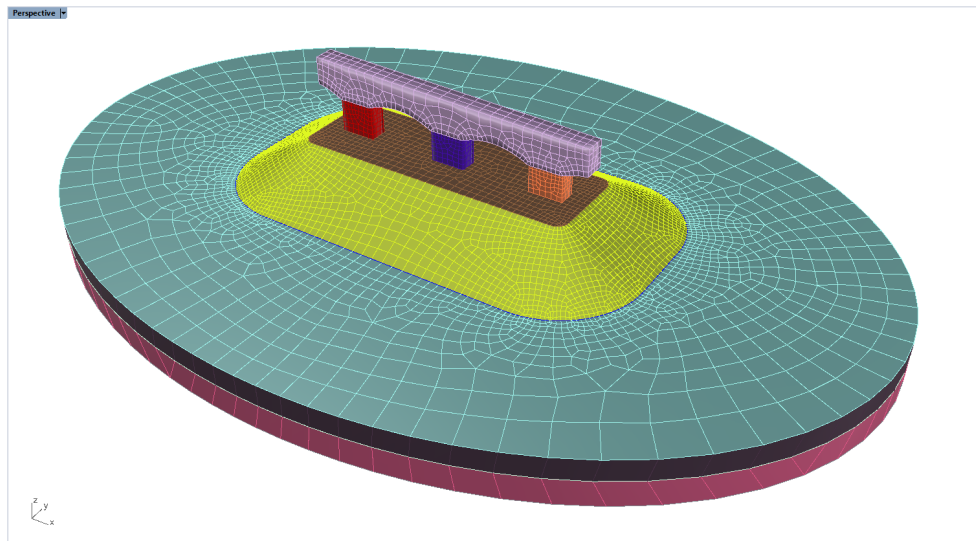
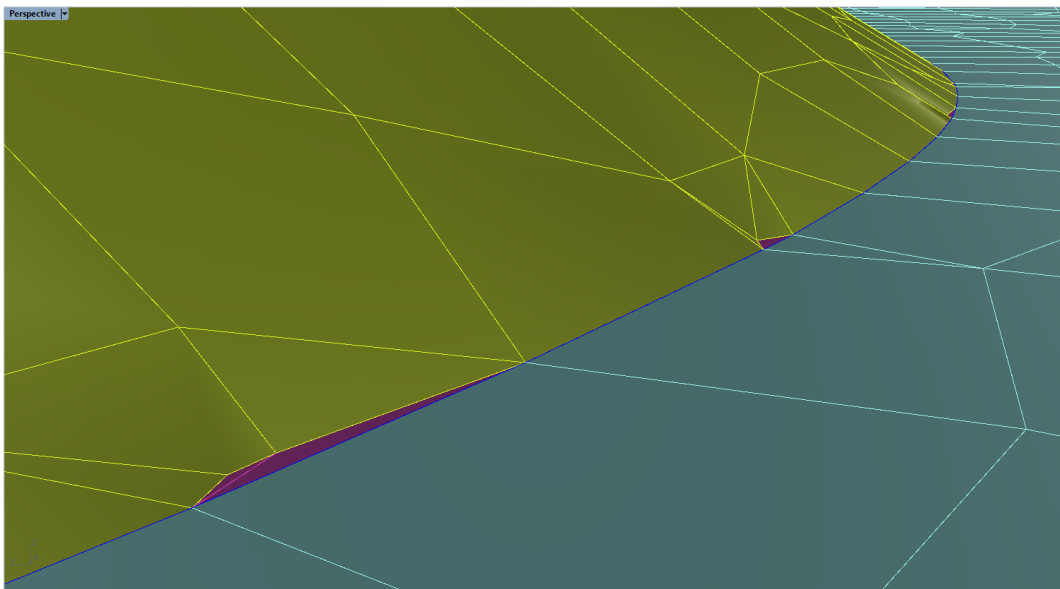

Figure 25: Remeshed surface meshes using standard approach.
Figure 26: Slightly deformed surface meshes when using standard approach.
14. Select all surface meshes and remesh with **GSurf** (  ) using the following parameters: *Mode* = *QuadDom*, *MinEdgeLength* = 0.25, *MaxEdgeLength* = 5, *RidgeAngle* = 5, *AdvancedParameters* → *MaxGradation* = 0.06, and keep all other parameters at the default values. The resulting meshes are shown in Figure 25. These meshes look good overall, but zoomed views of the curved bottom / top embankment sections reveal (yellow-green mesh) that these areas contain small elements (faces) that do not fully conform to the initial shape (Figure 26). This is due to independent meshing of the initial BRep surfaces and due to using a large tolerance in **GInt**3.
20. Remesh the initial mesh with **GSurf** (  ) using the same settings as in Step 14. The quality of elements (faces) around the curved parts of the embankment is much higher if compared with the mesh in Figure 25 (or with the meshes in layer “Meshes\_Approach1”).